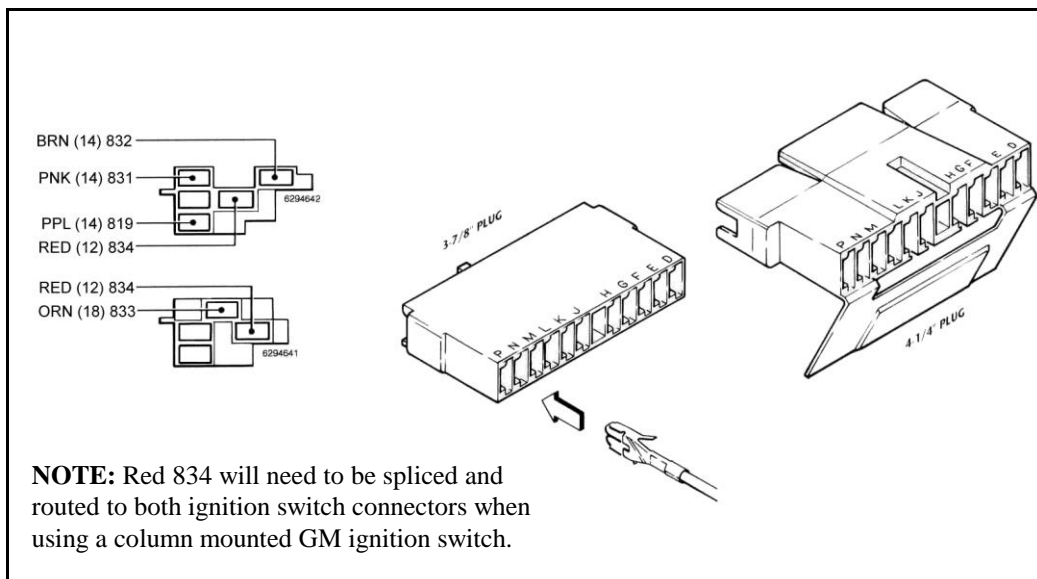

Figure 6.5 GM Ignition and Turn Signal Connectors
- (8) switch panel, connectors and terminals (These will not be included in P/N 50002)
- 2 GM turn signal connectors (See **Figure 6.5**)
- 2 GM ignition switch connectors (See **Figure 6.5**)
6.2.5 GM Ignition and Turn Signal Connectors. See Table 6.1 and Figure 6.5.
- A. There are two different turn signal plugs for GM tilt columns. The difference is in the length of the male plug that is mounted ON THE COLUMN. One plug is 4-1/4" (4.25") long and the other is 3-7/8" (3.875"). This is a mere 3/8" (0.375") difference, so measure the plug carefully. This kit has included female connectors to mate with either size column-mounted plug. See **Figure 6.5** to determine which connector is correct for your vehicle.
The TURN SIGNAL SECTION wires have already been terminated for you. Choose the proper connector and install the contacts according to **Table 6.1** and **Figure 6.5**.
*Note: The contacts will only insert into the connectors ONE WAY, as shown in **Figure 6.5**. Make certain you are inserting the wires into the CORRECT LOCATIONS as the contacts are difficult if not impossible to remove once inserted.*